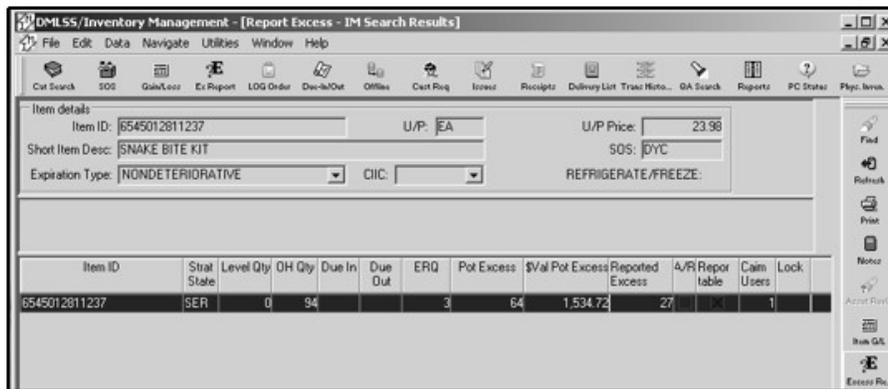

Figure 17. Report Excess–Inventory Management Search Results
4. The “Report Excess Search Results” window (Figure 17) contains item details and other management data necessary to determine appropriate item disposition. The item detail data is self-explanatory but special attention should be put on the Controlled Item Inventory Code (CIIC) and the “refrigerate/freeze” indicator. These items require special handling and may play a role in making disposition decisions. The following management data is displayed and should be used to make appropriate management decisions: